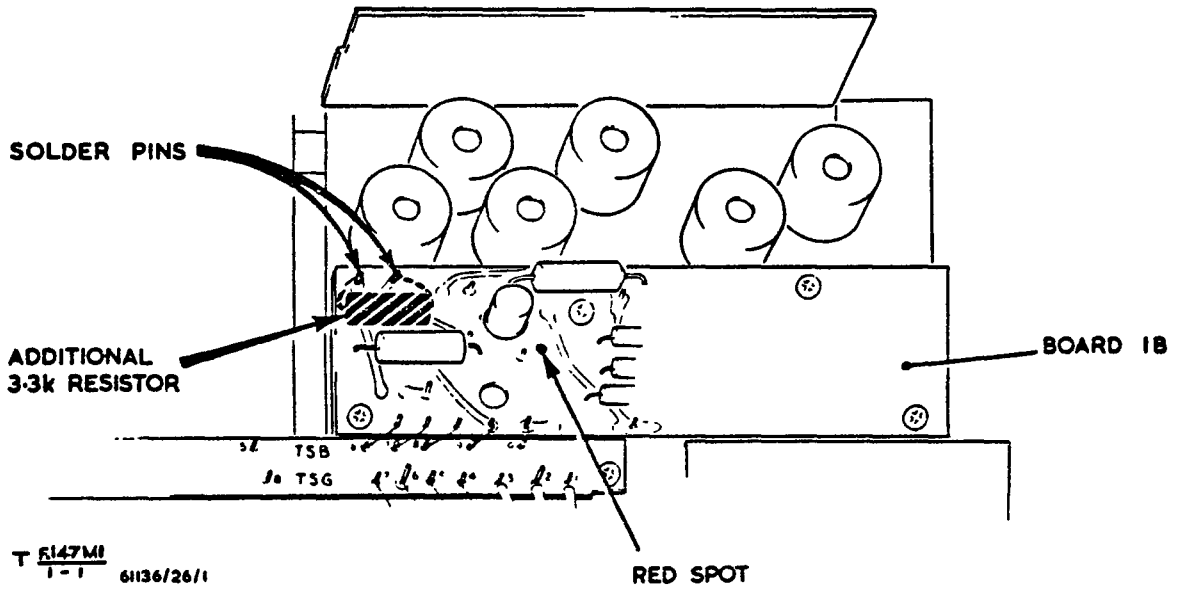

Fig 1 - Location of additional resistor on board 1B
- (iii) Ensure that the figure 6 is struck off the modification record label of the Transmitter-receiver, radio, A13. The figure 1 is to be struck off the modification record label of the Panel, electronic circuit (Board 1A) ONLY when the label becomes accessible during repairs or other modifications.
Note: If it is found that the Transmitter-receiver, radio, A13 modification record plate has the figure 6 struck through, the modification will have been completed either by the addition of a 3.3k Ω resistor in the position shown in Fig 1, and in some cases temporarily recorded by a red spot on board 1B; or by fitting a 1.8k Ω resistor in position R13 on board 1B, this being the value of the original resistor R13 (4.7k Ω) and the additional resistor (3.3k Ω) in parallel. In the latter case the modification will have been recorded on board 1B record label; in the former case, permanent recording must be done when the record label is accessible.
- (c) Refer to Figure 1 of this instruction which illustrates the position that the additional resistor will occupy.
- (d) Identify the two solder tags indicated by the twin arrow in Fig 1.
- (f) Strike through the figure 6 on the transmitter-receiver modification record plate. Figure 1 on the modification record label of the Panel, electronic circuit (Board 1A) will be struck through ONLY when the label becomes accessible during repairs or other modifications.
- (iii) Ensure that the figure 1 is struck through on the modification record plate of the Transmitter-receiver, radio, A13.